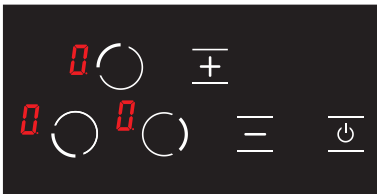

Figure 23
3. The **0** icon is displayed on all displays. (see Fig. 23) The **0** and **H** icons are displayed alternatively if any hob is hot.